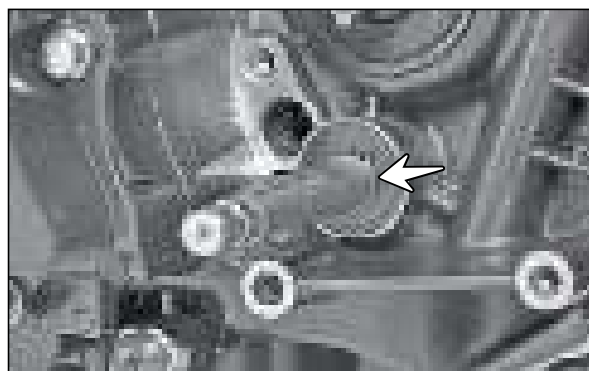

Fig. 3.113
- Remove the circlip (12x1) from shaft complete gear shift and take out the shim (12x26x1). (Fig. 3.113)